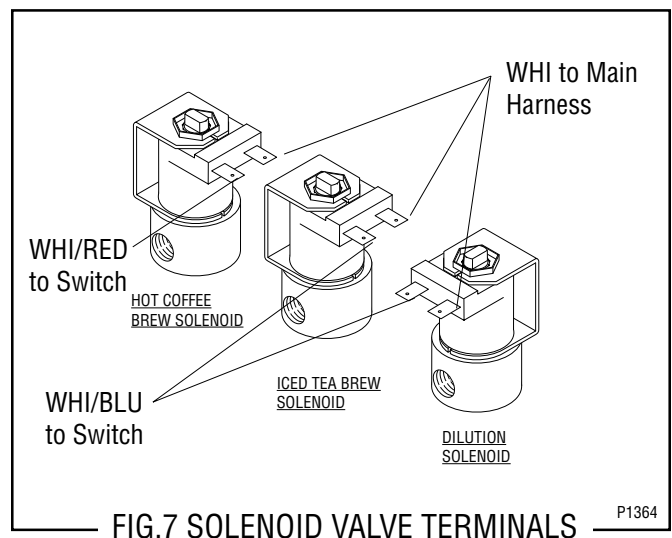

FIG.7 SOLENOID VALVE TERMINALS
10. Refer to Fig. 7 when reconnecting the wires.